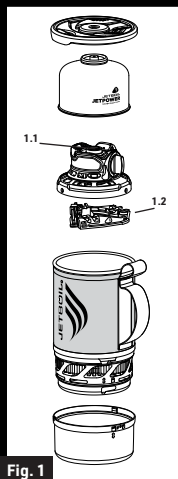

Fig. 1
4. Refer to Fig 1 for packing contents into pot.
1. Retirez le contenu emballé du récipient (Fig. 1).